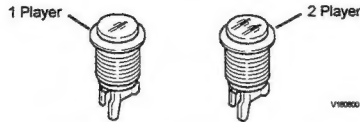

Figure 3: Start Buttons
17. Notice that there are two white buttons. See figure 3. The WHITE buttons are START buttons. Install the one player button on the top left-hand side of the control panel, and the two players button on the top right-side of the control panel.